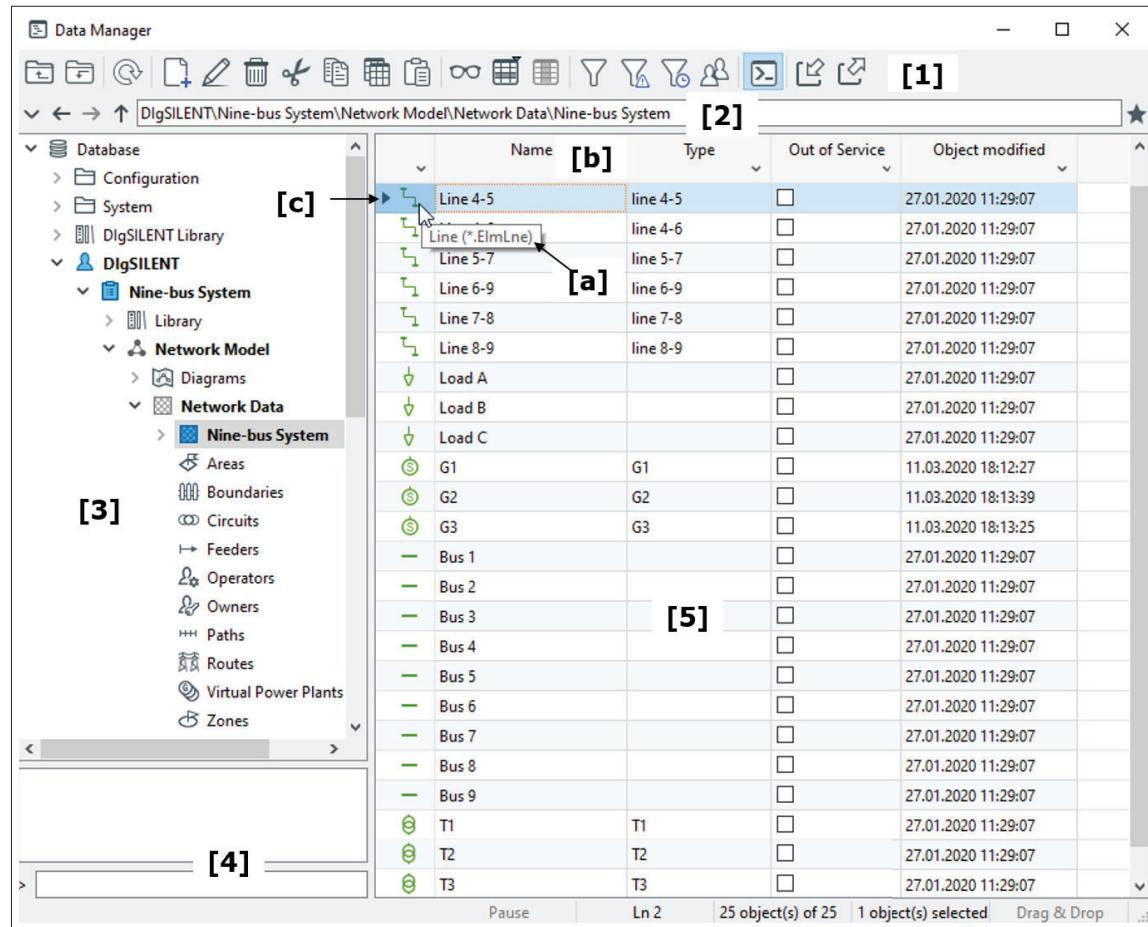

Figure 10.2.1: The Data Manager window
The Data Manager window has the following parts (see Figure 10.2.1):
The Data Manager address bar (seen in Figure 10.2.1 and labelled [2]) displays the file-path of the location currently selected on the left-hand side of the Data Manager, but also offers a number of features to help the user easily navigate the data structure.
- Use the toolbar in combination with the browser window. Double-click objects (see “c” in Figure 10.2.1) in the browser to open the corresponding object. This could result in opening a folder, in the case of a common or case folder, or editing the object dialog for an object. Once again, the action resulting from your input depends on where the input has occurred (left or right side of the Data Manager).